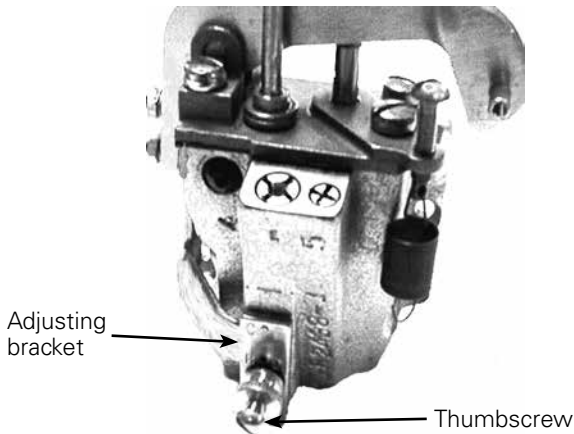

Figure 3. Adjustment mechanism
1. Loosen the thumbscrew and pull the bracket off the housing locating pin (Figure 3).